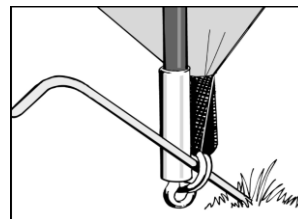

Figure 2.
- Secure the tent using the pin pegs through the Ring & Pin system (see fig 2).
2. Peg the corners of the tent through the metal rings using pin-pegs. It is important to drive the peg into the ground at a 45 degree angle to obtain the best grip. (See Figure 2).